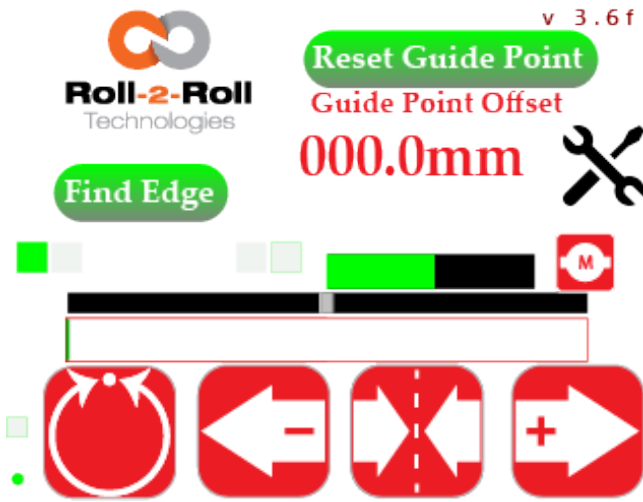

Figure 5.4: Fully covered state with left edge
- If the sensor is fully covered by the web or if the web is incorrectly oriented, the web position bar will appear entirely white, as depicted in Figures 5.4 and 5.5. In such cases, the web detect indicator will turn gray, signaling the absence of a valid edge.